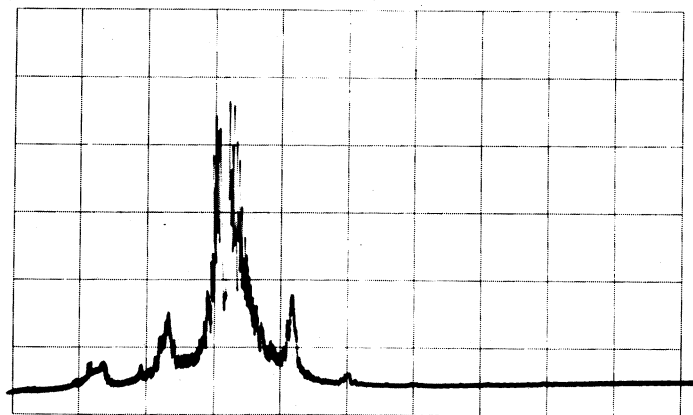

Fig. 2. Typical Resolution Check Waveform
4. Set the rf generator for a signal 6 cm high. The display should resemble Figure 2. The dip between the carrier and the 1 kc sideband should be at least 3 db.